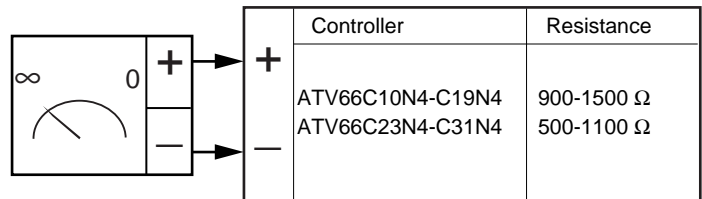
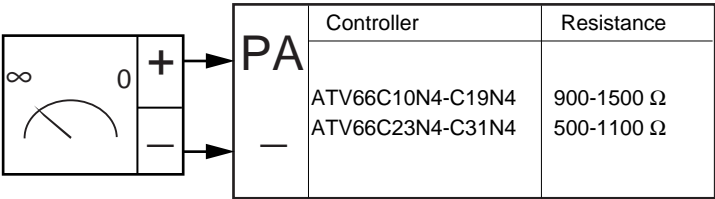

Figure 3.39: Checking the Rectifier Bus
Figure 3.40: Checking the Capacitor and Inverter Bus
The readings shown in Figures 3.39 and 3.40 (on page 3.68) should result.
3. If the resistance is greater than shown in Figures 3.39 and 3.40, there may be an open balancing or discharge resistor, a loose bus connection, or an open DC bus fuse.
4. If the resistance is greater than shown in Figure 3.39 and the resistance is within the range shown in Figure 3.40, the precharge resistor or precharge circuit protector (GV2) may be open.
5. If the resistance is less than that shown in Figures 3.39 and 3.40, there may be a short circuit on the DC bus of the controller. If external wiring is present on the (+), (-), or (PA) terminals, disconnect the wiring and repeat the test to determine whether the cause of the lower resistance readings is internal or external to the controller. If the cause of the lower resistance readings is external to the controller, repeat the resistance measurement to determine the actual state of the drive controller. If the resistance measurements remain low after disconnecting the external wiring, then there may be damage to the rectifier bridge, multiple IGBTs and associated snubber boards (if used), DC bus insulation, or DC bus capacitors.
6. If the resistance is within the range shown in Figure 3.39 and the resistance is less than shown in Figure 3.40, the precharge resistor or precharge circuit protector (GV2) may be open. If external wiring is present on the (PA) and (-) terminals, disconnect the wiring and repeat the test to determine whether the cause of the lower resistance readings is internal or external to the controller. If the cause of the lower resistance readings is external to the controller, repeat the resistance measurements to determine the actual state of the drive controller. If the resistance measurements remain low after disconnecting the external wiring, additional damage may be present to multiple IGBTs and associated snubber boards (if used), DC bus insulation, or DC bus capacitors.
7. If the resistance is less than shown in Figure 3.39 and the resistance is within the range shown in Figure 3.40, the precharge resistor or precharge circuit protector (GV2) may be open. If external wiring is present on the (+) and (-) terminals, disconnect the wiring and repeat the test to determine whether the cause of the lower resistance readings is internal or external to the controller. If the cause of the lower resistance readings is external to the controller, repeat the resistance measurements to determine the actual state of the drive controller. If the resistance measurements remain low after disconnecting the external wiring, additional damage may be present in the rectifier bridge.